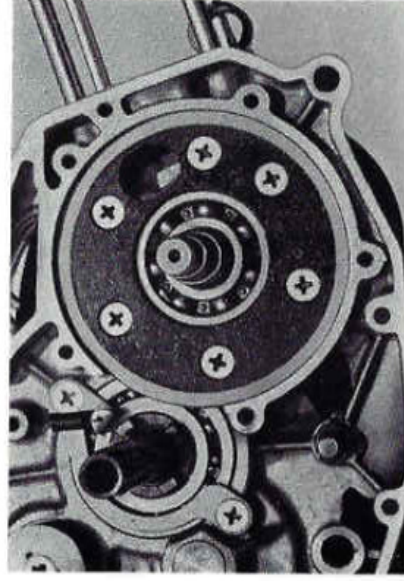

Fig. 8-2-26
27. The **inner valve seat** can be removed by loosening 6 cross head screws with a screw driver, but only for disassembling the crankcase it is not necessary to remove this inner valve seat. (Fig. 8-2-26)